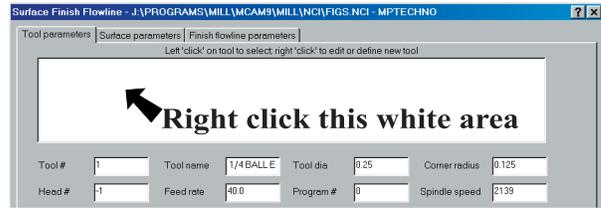

Fig. 2
Step 1. **Right click** the large white area and click **Get tool from library...** Fig. 2.